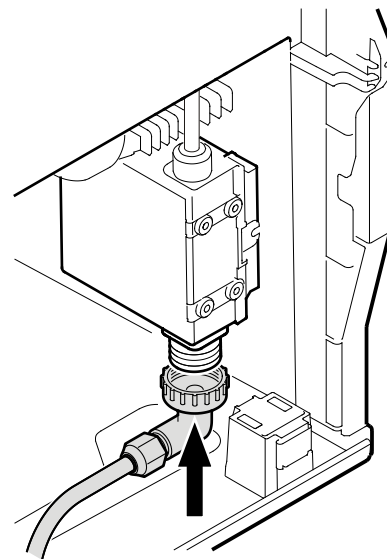

Figure 15
5. Screw the OD adapter onto the solenoid valve (**Figure 15**).